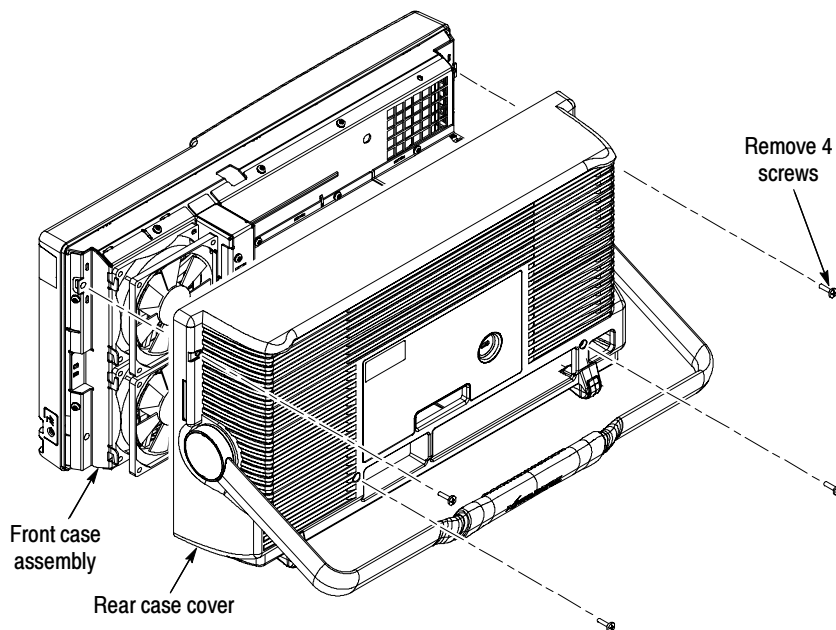

Figure 4: Removal of rear case cover.
2. Remove the four T-15 TORX screws that secure the rear cover to the front case assembly. See Figure 4.